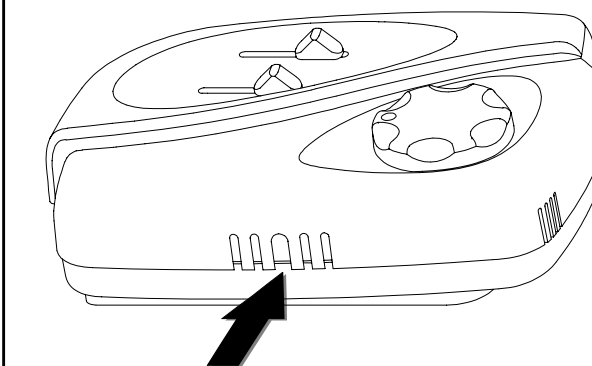
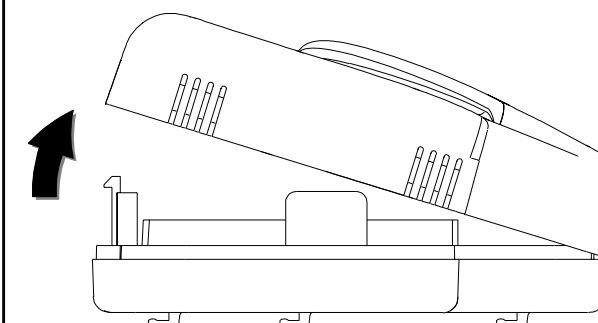

Fig. 2: Feritoia per apertura calotta / Plastic cover opening slot
Fig. 3: Apertura calotta / How to remove the plastic cover
1. Remove the plastic cover pressing (with the help of a tool like a screwdriver) the plastic tooth located in the lower slot as indicated in Fig. 2 raising, at the same time, the front cover as indicated in Fig. 3.
1. Rimuovere la calotta spingendo con l'aiuto di un attrezzo (ad esempio un cacciavite) la linguetta plastica situata nella feritoia in basso come in Fig. 2 e ruotare contemporaneamente la calotta come in Fig. 3.